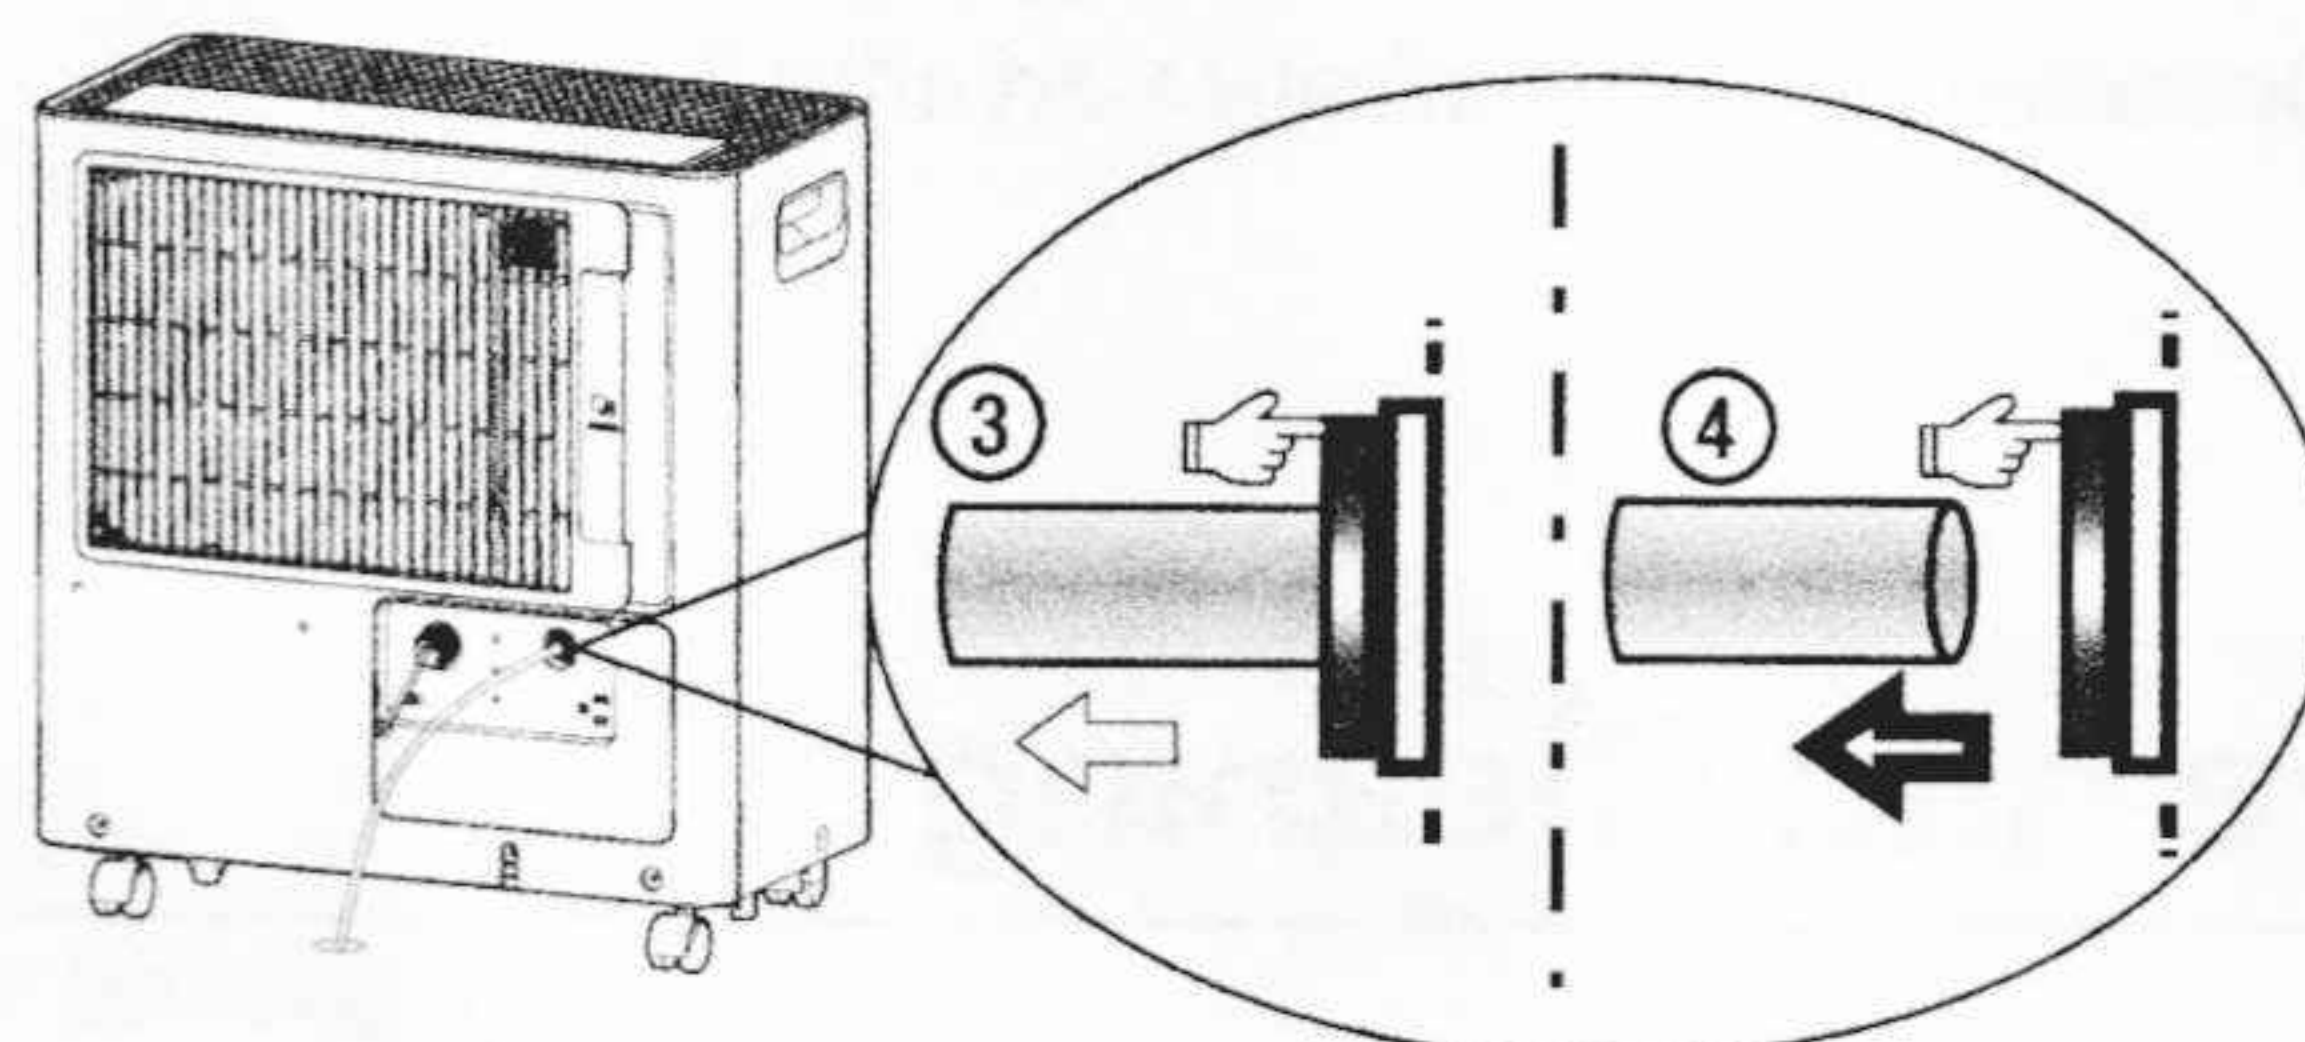

Fig. 6
- Keep pressing the grey ring while pulling out the plug (as shown as Fig. 6).